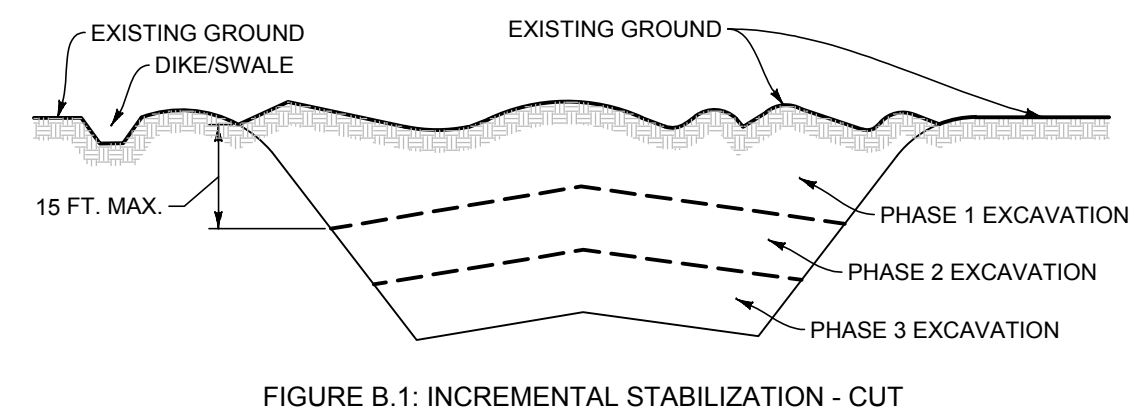

FIGURE B.1: INCREMENTAL STABILIZATION - CUT
2. CONSTRUCTION SEQUENCE EXAMPLE (REFER TO FIGURE B.1):